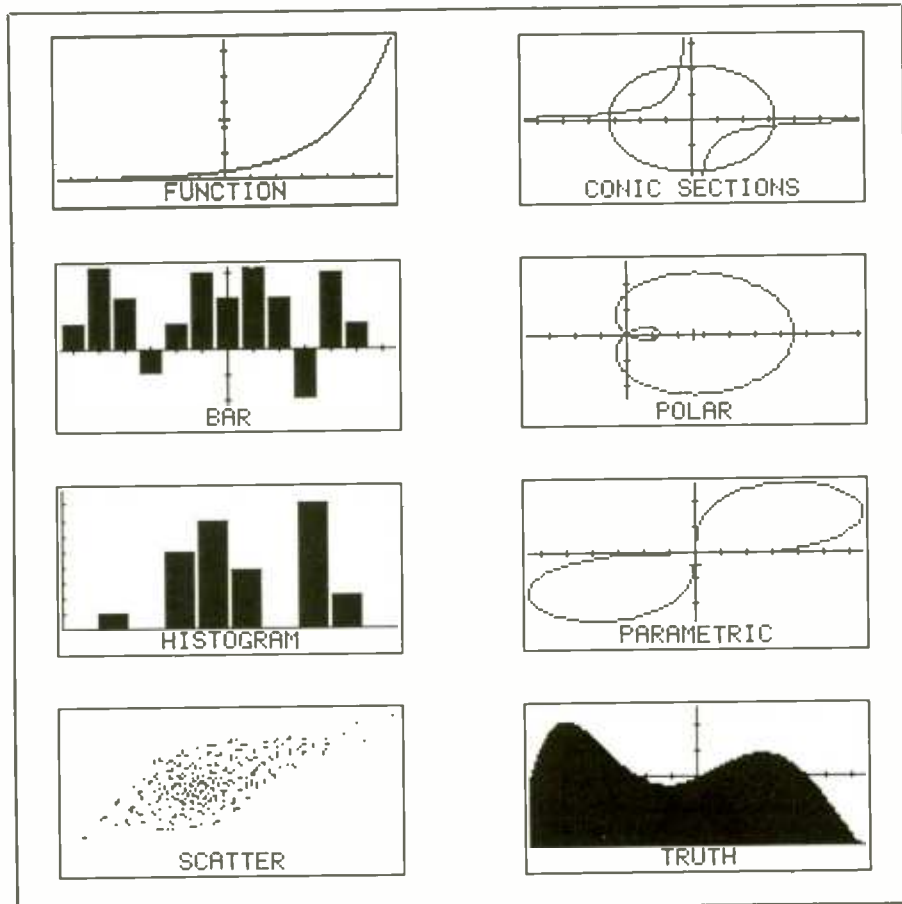

Fig. 4. The HP 48SX has eight plot types.
If you want to operate in the graphics mode, the HP 48SX can zoom in on a portion of a graph and automatically find roots, slopes and local extremes, as shown in Figs. 3(A) through 3(E), as well as find the area under a curve. The unit can also display graphs in eight formats: function, bar charts, histograms, scatter plots, conic section, polar, parametric and truth plots (see Fig. 4).